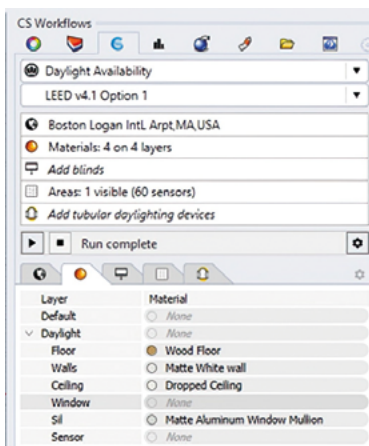

Figure 7 Materials tab
Step 3: Select the desired workflow, in figure 7 "Daylight availability" is selected. Daylight availability comes with different predefined options, e.g. "EN 17037" or "LEED v4.1 option 1", you can read more about the options here.
Step 4: Now, go to the materials tab in ClimateStudio Workflows. Select a material by clicking in the right column named "material", next to the layer that you wish to assign a material (see the lower part of figure 7).